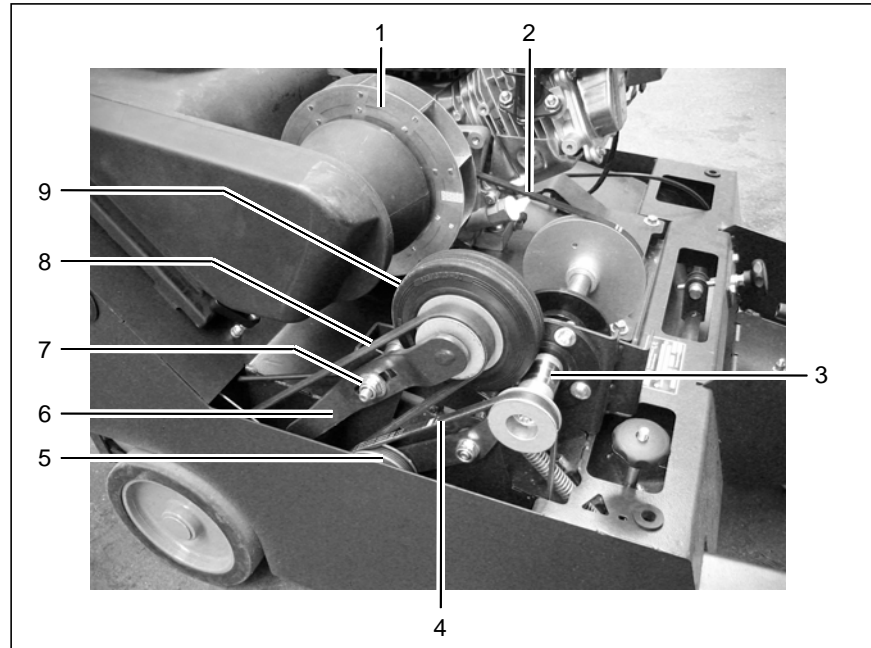

Fig. 16
Ensure the engine has stopped before opening the hood. Risk of injury through running belt drives (Fig. 16/2+4+8) and rotating fan (Fig. 16/1)!
If you notice that the rear wheel shaft is no longer driven properly, it is possible that the tension of the drive belts (Fig. 16/2+8) is no longer sufficient or the running surface of the friction wheel (Fig. 16/9) is worn (distance between wheel and running surface > 0.04 in).
1. Loosen the screw connection (Fig. 16/7) in the friction wheel crank (Fig. 16/6).
2. Tension the belt (Fig. 16/8) which leads to the rear wheel shaft by moving the friction wheel crank (Fig. 16/6) in the slot using an appropriate tool.
The friction wheel (Fig. 16/9) thereby lies against the drive shaft (Fig. 16/3).
3. Tighten the screw connection (Fig. 16/7) in the friction wheel crank (Fig. 16/6).
5. Turn the hexagon nut (Fig. 17/4) so far on the eye bolt (Fig. 17/5) until the tension spring (Fig. 17/2) tensions and the friction wheel retracts 0.04 - 0.08 in from the drive shaft (Fig. 16/3).